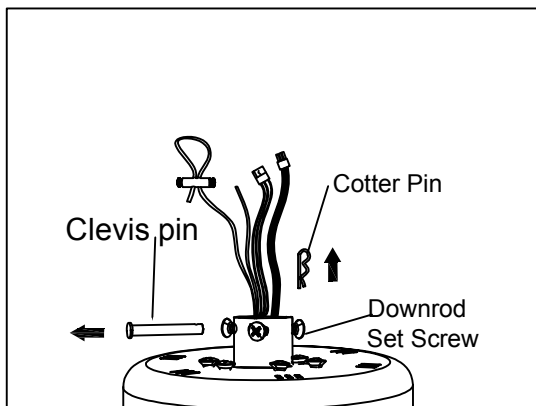

Figure 1.1
- Take out the motor assembly and then pull out the clevis pin and cotter pin. Loosen the three downrod set screws in the collar on top of the motor housing. (Figure 1.1)